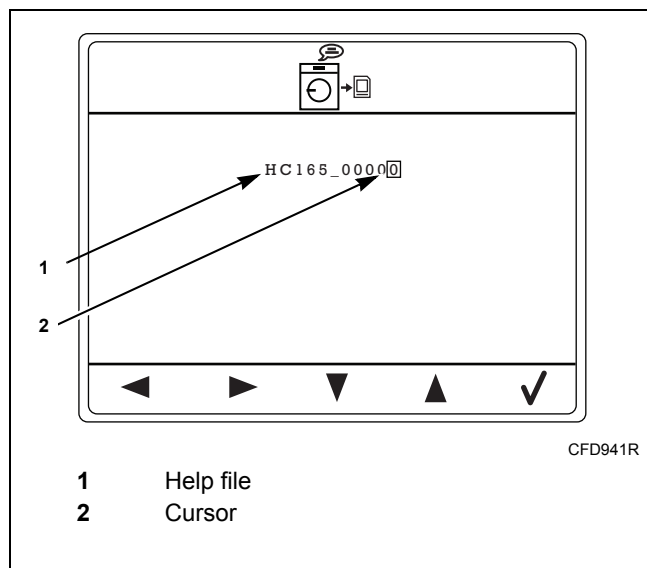

Figure 58
1. Move the cursor using the keypads below the Left/Right icons to select a letter or figure or to add a letter or figure. Refer to *Figure 58*.
2. Change the letters and figures with using the keypads below the Up/Down icons. Refer to *Figure 58*.
3. Press the keypad below the Check icon to write the data to the data card. Refer to *Figure 58*.